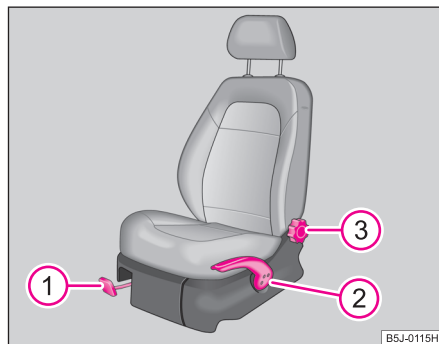

Fig. 49 Controls at seat
- Pull the lever (1) ⇒ page 70, fig. 49 up and push the seat into the desired position.
- Release the lever (1) and push the seat further until the lock is heard to engage.